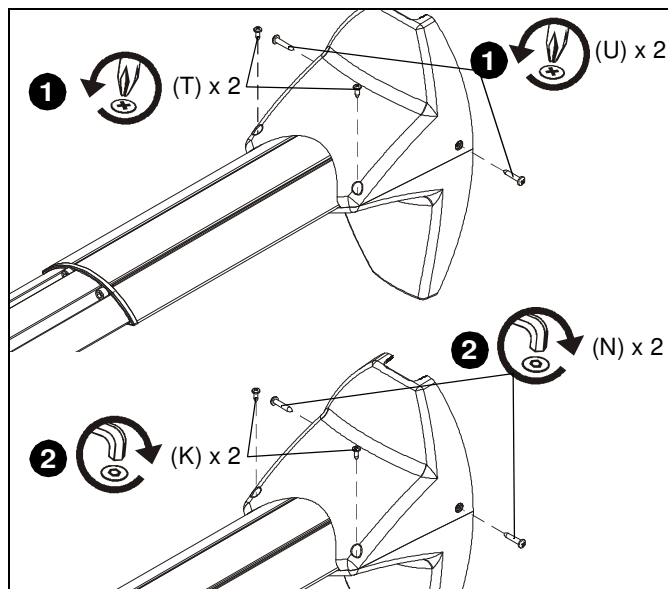

Figure 26
- Remove two #8 x 1/2" Phillips screws (T) and two #10 x 1" Phillips screws (U) from top and lower covers. (See Figure 26)
- Install two 8-32 x 1/2" buttonhead security screws (K) and two 10-24 x 1" buttonhead security screws (N) into top and lower covers. (See Figure 26)